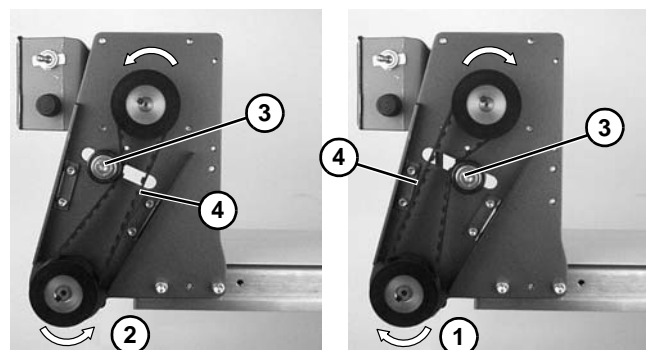

Figure 15
10. Depending on direction of conveyor belt travel (1 or 2 of Figure 15), position timing belt tensioner (Figure 15, item 3) as shown. Tension timing belt to obtain 1/8" (3 mm) deflection for 1 lb (456 grams) of force at timing belt mid-point (Figure 15, item 4). Tighten tensioner screw to 106 in-lb (12 Nm).